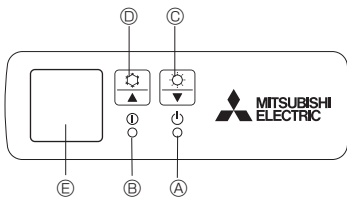

Fig. 5-1
- [Fig. 5-1] ① DEFROST/STAND BY lamp
② Operation lamp
③ Emergency operation switch (heating)
④ Emergency operation switch (cooling)
⑤ Receiver